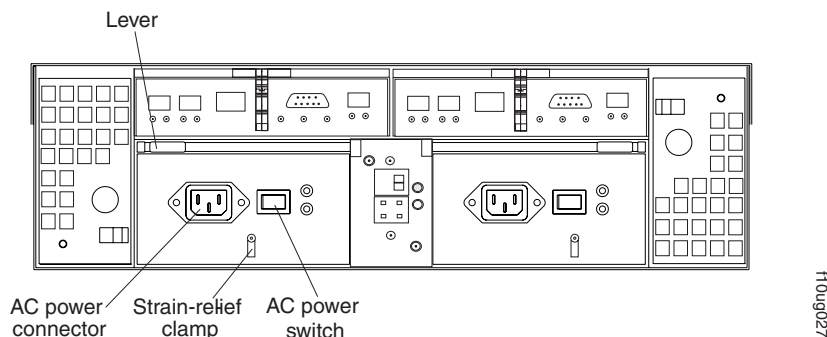

Figure 66. Lever for power supply removal
2. Turn off the ac power switch. See Figure 66.